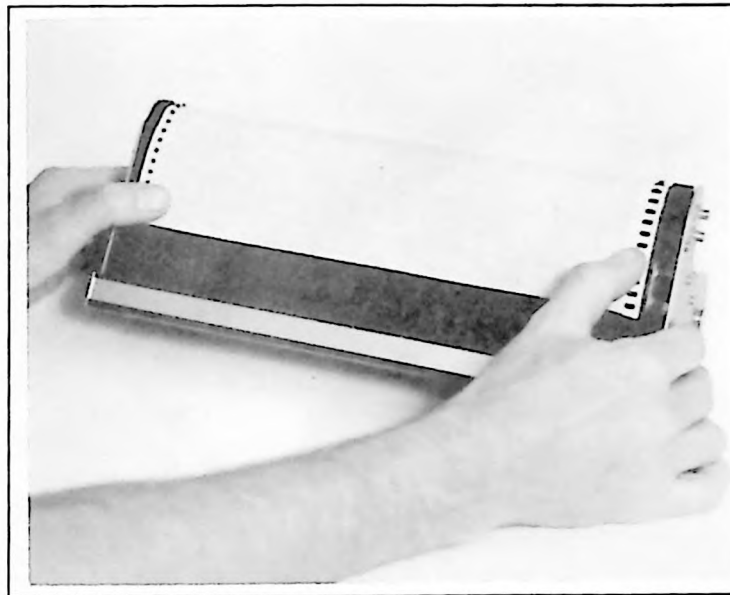

Figure 3-9. Paper/Sprockets Engagement
- e. Place chart magazine in upright position. Pull paper up and over platen. See that paper engages with the sprockets. See Figure 3-9.